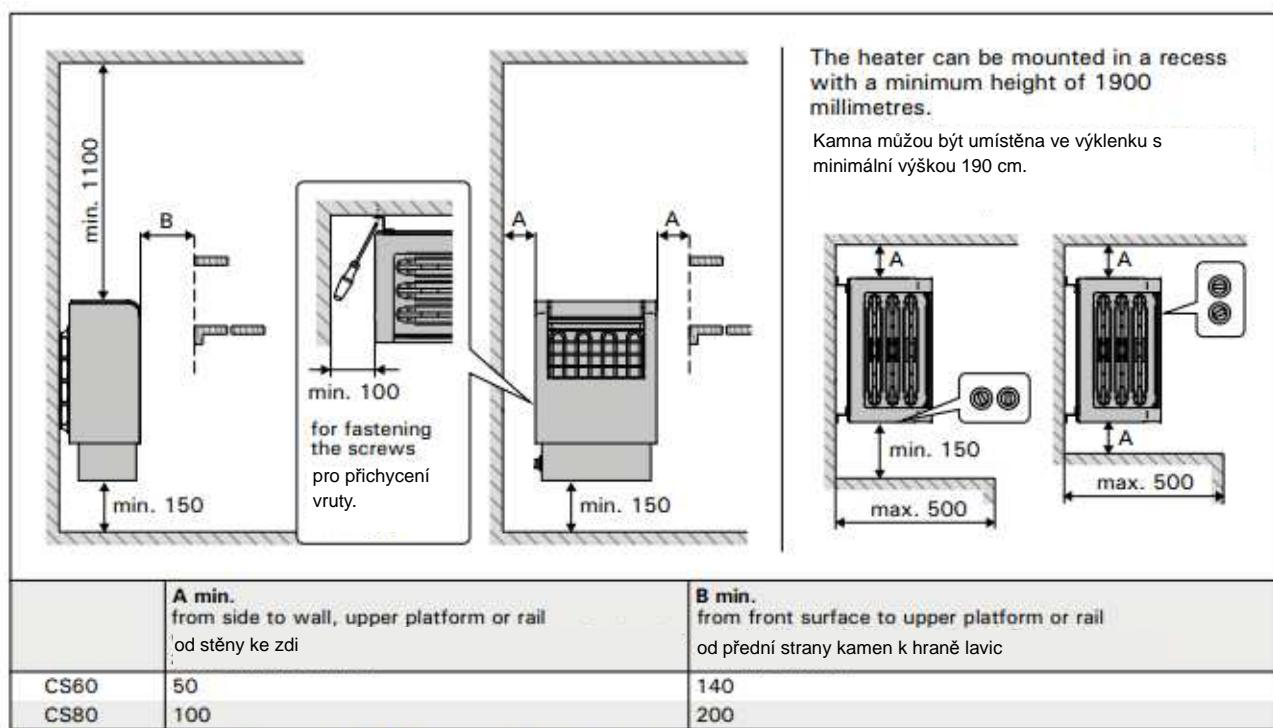

Figure 6. Safety distances (all dimensions in millimeters)
- Is the supply voltage suitable for the heater? The location of the heater fulfils the minimum requirements concerning safety distances given in fig. 6 and table 2. It is absolutely necessary to install the heater according to these values. Neglecting them causes a risk of fire. Only one electrical heater may be installed in the sauna room.